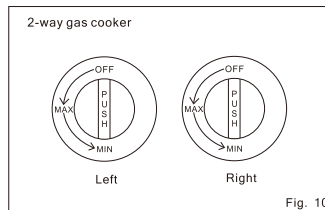
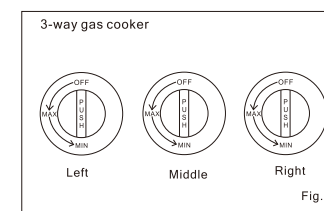

Fig. 10
Fig. 11
3. Place the gas control knob onto the gas cock axis and push it inwards firmly. (Fig. 10)(Fig. 11)